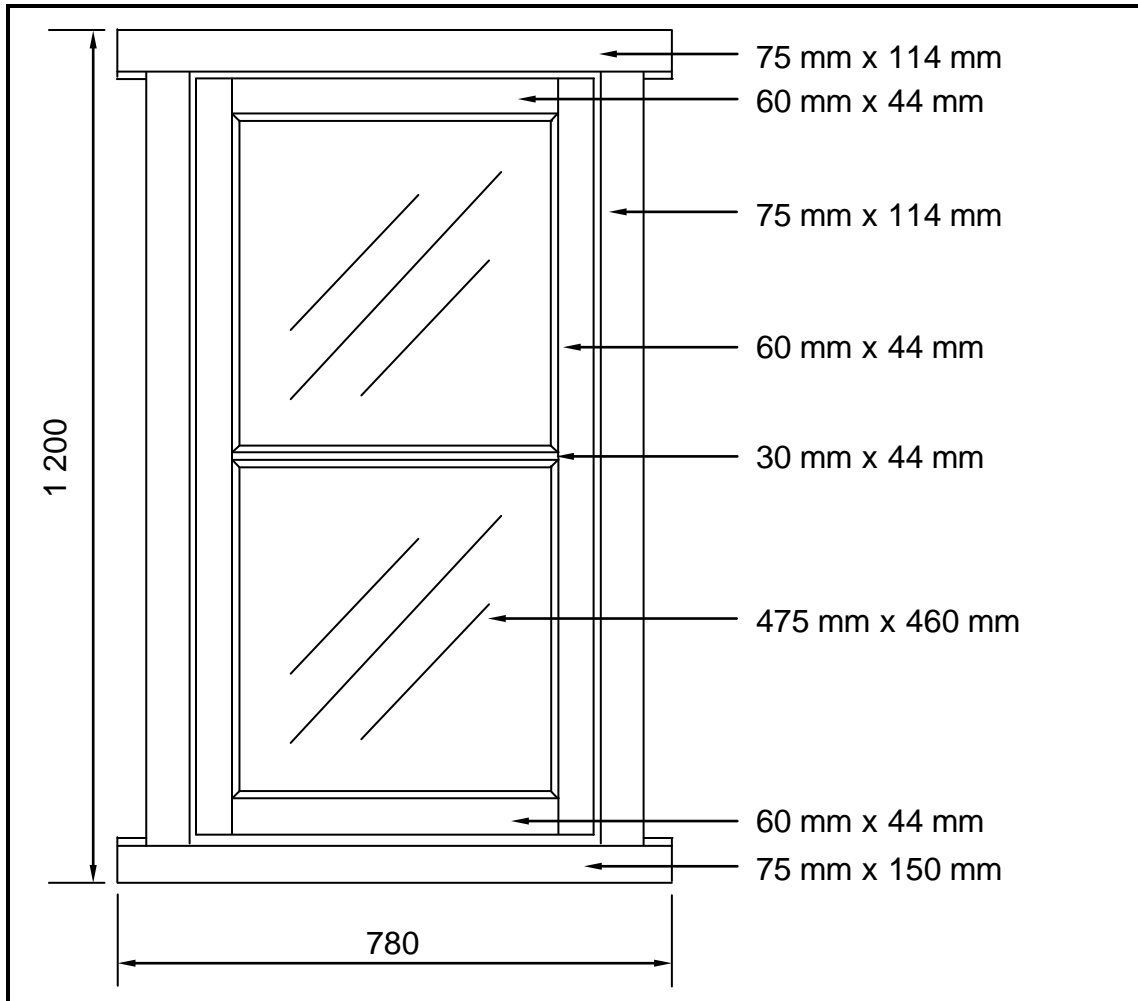

FIGURE 4.1
4.1 FIGURE 4.1 below shows the front view of a single casement with two window panes. The tenons of all the joints are through and through. The horns on both sides are 25 mm long. Study the drawing and use the information to complete the cutting list. Write down the answer next to the question number (4.1.1 to 4.1.8) in the ANSWER BOOK.